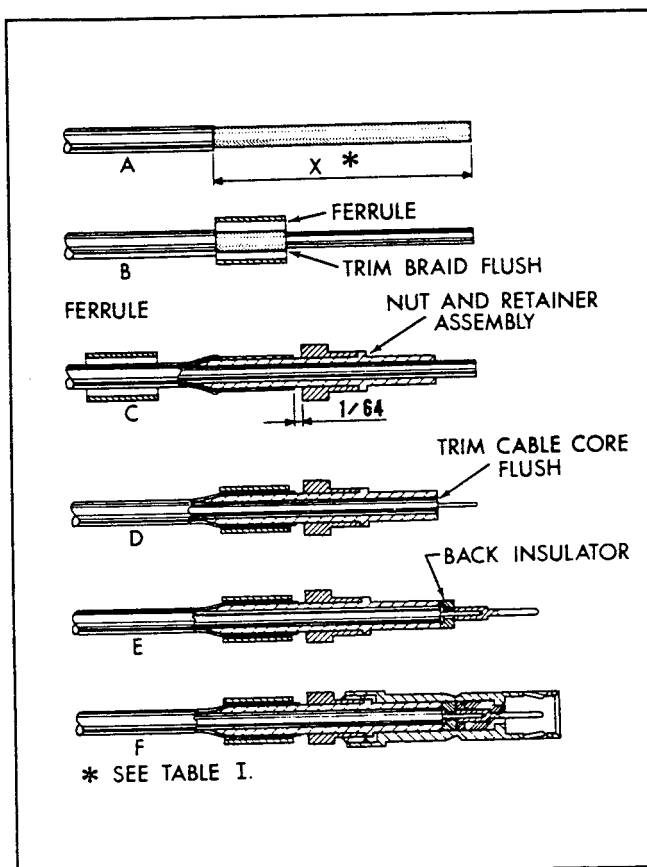

Figure 2-4. Contact Assembly Steps
a. Remove 0.809 in. of cable outer sheath from end of cable (A, figure 2-4, X dimension). Hot wire stripping is recommended to avoid cutting or nicking outer conductor.
b. Slide ferrule over outer braid flush with edge of outer sheath (B, figure 2-4).
d. Slide ferrule over outer sheath (C, figure 2-4). On some coaxial cables this ferrule will not move back over the outer sheath due to diameter interference. Position the nut and retainer assembly inside the outer braid while holding the ferrule in position over the outer braid. Crimp as described in step f.